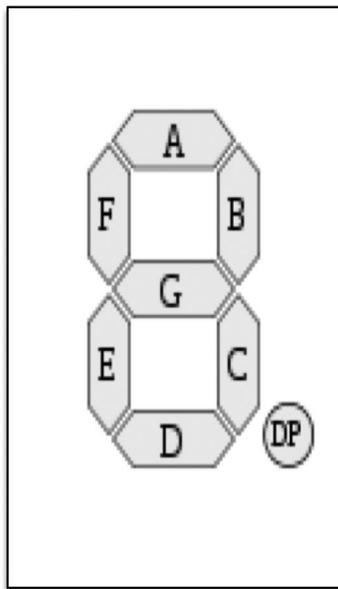

Figure 5-1 Seven-segment display.
Figure 5-1 shows how the segments of a seven-segment display are organized. Each segment is given a letter A–G with an additional connection to the decimal point (DP).
The `always` block synchronizes on the `CLK` and contains a new construct called a *case statement*. The case statement is a more concise way of writing a whole load of `if` commands that all have the same value as a condition. Here input `D` is the value of interest to the case statement. If `D` is 0, then the output segments (`SEG`) are set to the bit pattern `00000011`. A zero indicates that the segment should be lit. Thus, referring to Figure 5-1, this says that segments a, b, c, d, e, and f should all be lit, leaving just g (in the middle) and the decimal place unlit. Each value of `D` has its own bit pattern.